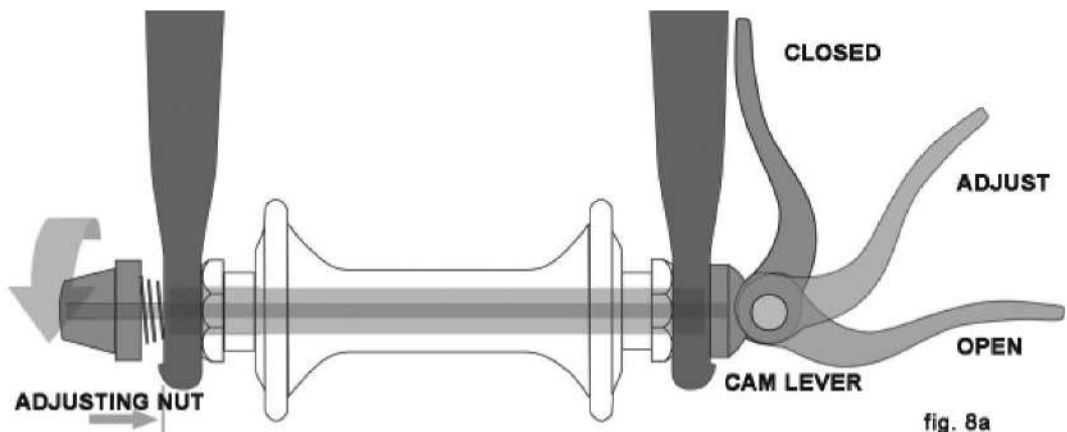

fig. 8a
There are currently two types of over-center cam wheel retention mechanisms: the traditional over-center cam (fig. 8a) and the cam-and-cup system (fig. 8b). Both use an over-center cam action to clamp the bike's wheel in place. Your bicycle may have a cam-and-cup front wheel retention system and a traditional rear wheel cam action system.
a. Adjusting the traditional cam action mechanism (fig. 8a)
- (2) If your bike has cam action front wheel retention, move the cam lever from the locked or CLOSED position to the OPEN position (fig. 8a & b). If your bike has through bolt or bolt-on front wheel retention, loosen the fastener(s) a few turns counter-clockwise using an appropriate wrench, lock key or the integral lever.
- (3) If your front fork has a clip-on type secondary retention device, disengage it. If your front fork has an integral secondary retention device, and a traditional cam action system (fig. 8a) loosen the tension adjusting nut enough to allow removing the wheel from the dropouts. If your front wheel uses a cam-and-cup system, (fig. 8b) squeeze the cup and cam lever together while removing the wheel. No rotation of any part is necessary with the cam-and-cup system.
- (2) With the steering fork facing forward, insert the wheel between the fork blades so that the axle seats firmly at the top of the fork dropouts. The cam lever, if there is one, should be on rider's left side of the bicycle (fig. 8a & b). If your bike has a clip-on type secondary retention device, engage it.
- (3) If you have a traditional cam action mechanism: holding the cam lever in the ADJUST position with your right hand, tighten the tension adjusting nut with your left hand until it is finger tight against the fork dropout (fig. 8a). If you have a cam-and-cup system: the nut and cup (fig. 8b) will have snapped into the recessed area of the fork dropouts and no adjustment should be required.
- (4) While pushing the wheel firmly to the top of the slots in the fork dropouts, and at the same time centering the wheel rim in the fork:
- (a) With a cam action system, move the cam lever upwards and swing it into the CLOSED position (fig. 8a & b). The lever should now be parallel to the fork blade and curved toward the wheel. To apply enough clamping force, you should have to wrap your fingers around the fork blade for leverage, and the lever should leave a clear imprint in the palm of your hand.
- (1) With a cam action system, move the cam lever to the OPEN position (see fig. 8a & b). The lever should be on the side of the wheel opposite the derailleur and freewheel sprockets.
- (2) On a derailleur bike, make sure that the rear derailleur is still in its outermost, high gear, position; then pull the derailleur body back with your right hand. Put the chain on top of the smallest freewheel sprocket.
- (3) On single-speed, remove the chain from the front sprocket, so that you have plenty of slack in the chain. Put the chain on the rear wheel sprocket.
- (4) Then, insert the wheel into the frame dropouts and pull it all the way in to the dropouts.
- (5) On a single speed or an internal gear hub, replace the chain on the chainring; pull the wheel back in the dropouts so that it is straight in the frame and the chain has about 1/4 inches of up-and-down play.
- (6) With a cam action system, move the cam lever upwards and swing it into the CLOSED position (fig. 8a & b). The lever should now be parallel to the seat stay or chain stay and curved toward the wheel. To apply enough clamping force, you should have to wrap your fingers around the fork blade for leverage, and the lever should leave a clear imprint in the palm of your hand.
- (7) With a through-bolt or bolt-on system, tighten the fasteners to the torque specifications in Appendix C or the hub manufacturer's instructions.
the binder uses an over-center cam action to firmly clamp the seat post (see fig. 8a).